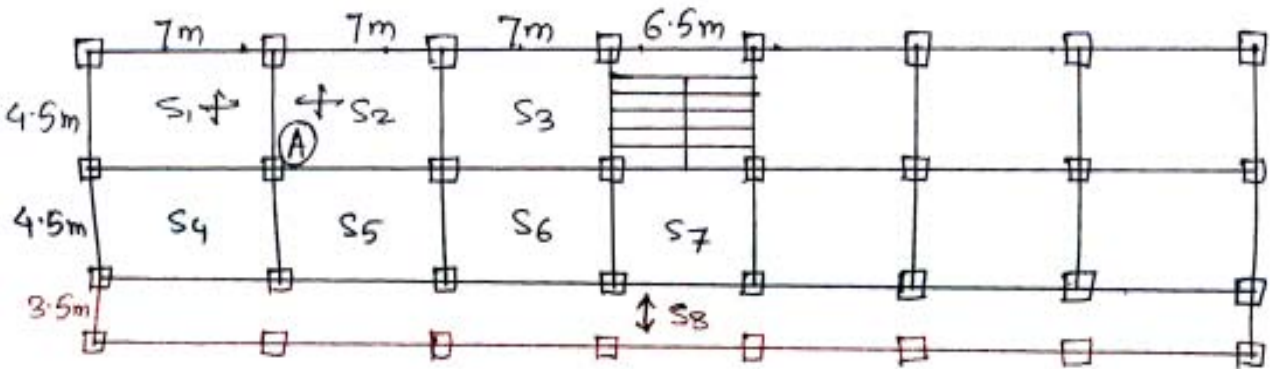

Fig. 1
5. A centre line plan of a school building is shown in the figure 1 (G + 2 storey). Classify all the slabs and design slabs S_1, S_2 and S_8 using L.S.M. Design the torsional reinforcement for two-way slabs. Draw reinforcement details in plan and sectional elevation. Take LL on all slabs = 4kN/m^2 and floor finish 1.2kN/m^2 material M_{20} and Fe_{415} .